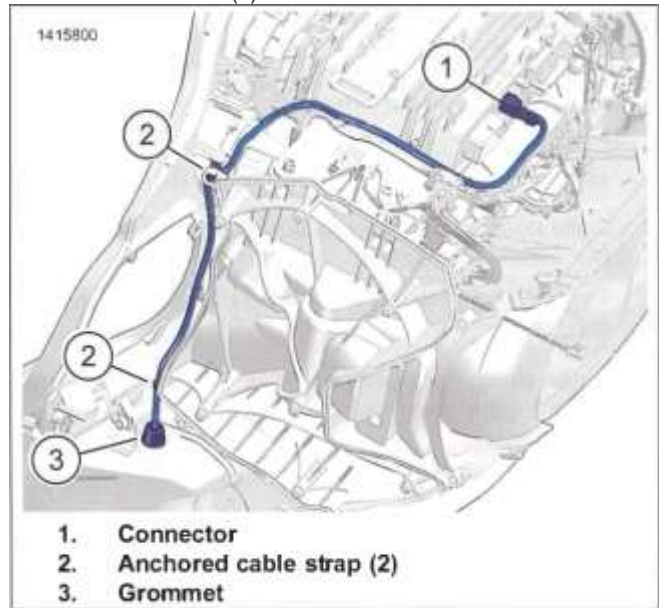

Figure 3-125. Fix Fairing USB Cable
1. See Figure 3-125. Disconnect connector (1) from radio.
2. Remove and discard anchored cable strap (2) from upper speaker enclosure.
4. Remove and discard anchored cable strap (2) from media storage compartment.
5. Compress grommet (3) and push into storage compartment.
1. See Figure 3-125. Route media cable from inside through right storage compartment.
2. Adjust length of cable and install grommet (3).
3. Install **new** anchored cable strap (2) to media storage compartment.
6. Install **new** anchored cable strap (2) to upper speaker enclosure.
7. Connect connector (1) to radio.